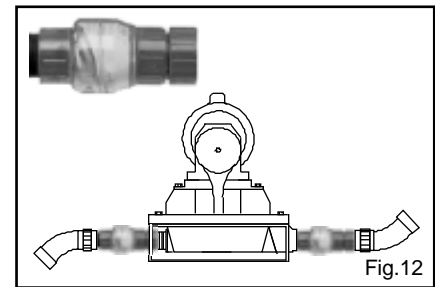

Fig.12
- **FLAPPER CHECK VALVES AND SOLIDS** - Solids trapped under the check valves will prevent self priming. This is likely to occur when the pump is used in sewage or sump pump out applications. Flushing with water will generally clear out the solid matter. Installing secondary clear flapper check valves right at the inlet and discharge will improve the dry suction start performance of the pump and make clearing the valves easy. Order Edson Clear Check Valves 269CL-200 (2") or 269CL-150 (1.5"). See Fig.12